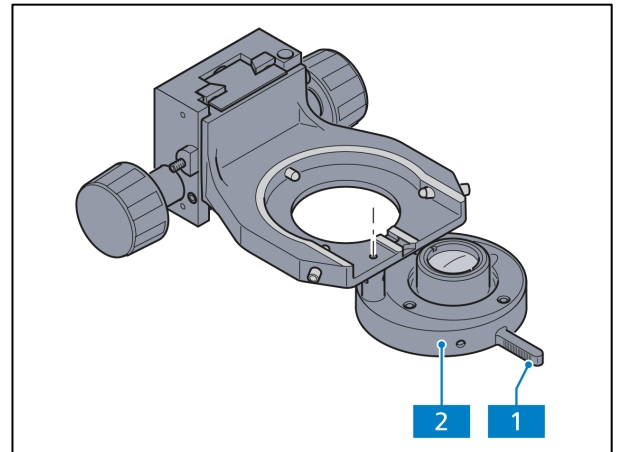

Fig. 2-13 Low-power system mounted on the condenser carrier
- Swing the low-power system (Fig. 2-13/2) in or out of the beam path using the handle (Fig. 2-13/1). Make sure the module locks in securely.